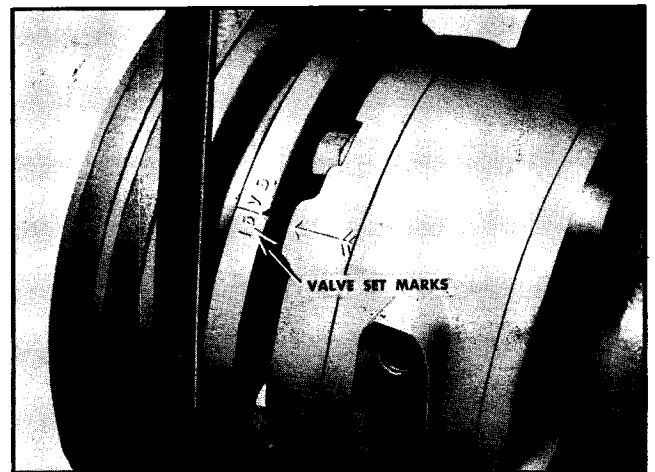

Fig. 12-63. Valve set marks
2. Align valve set mark on fan drive pulley with timing mark on gear case cover. Fig. 12-63.